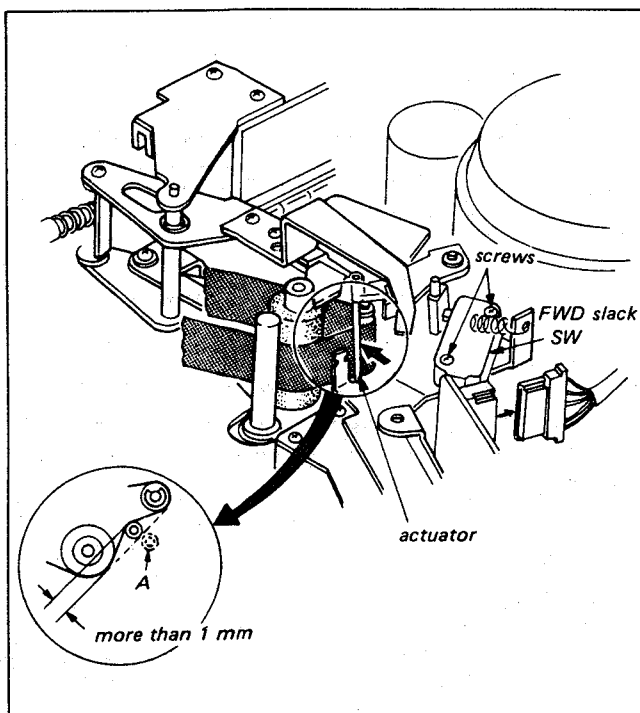

Fig. 6-27. FWD slack switch position adj. (FWD mode with tape)
3. Push the Actuator with finger in the direction shown by arrow in Fig. 6-27 until this switch is turned OFF. Listen to the micro switch click sound to make sure that it is turned OFF. (The Actuator should be able to move more than 2mm from this position.)
5. Release finger from actuator and observe the actuator as it stops while in contact with tape. Make sure that the actuator travels more than 1mm (A) distance from the step 4 ON position until step 5 position.
6. If the step 5 requirement cannot be observed, loosen the two screws that secure micro switch (B) and adjust then the micro switch location.